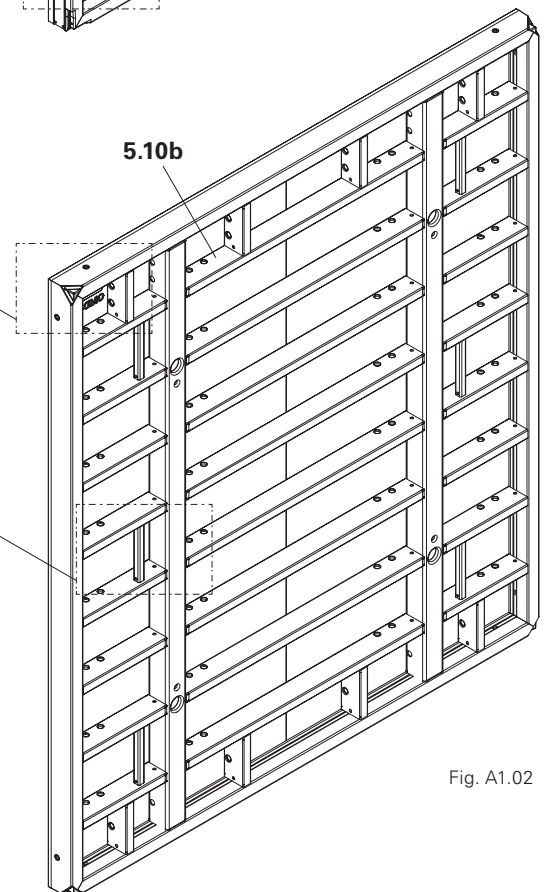

Fig. A1.02
- Perforated strut profile (5.10b) (Fig. A1.02)